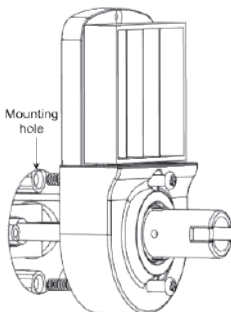

fig. 4
2 3/8" (60 mm) or 2 3/4" (70 mm) backset (see fig.4).
- 1.4 Insert Mounting Screws to mounting hole on the inside chassis (see fig. 4), screws should slide smoothly through hole on door. Use Philip Driver to drive two screws into mounting hole on mounting poles.